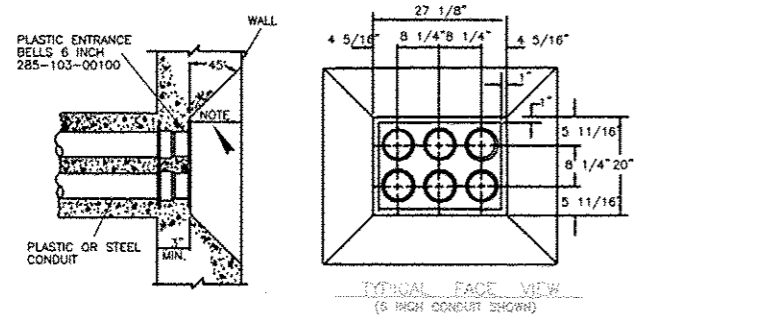

FIG. 1 MANHOLE ENTRANCE WITH PLASTIC TERMINATORS (OLDER STYLE)
CONDUIT ENTRANCES INTO MANHOLES/HANDHOLES SHALL NORMALLY BE MADE WITH PLASTIC ENTRANCE BELLS PER FIGURE 1 OR 2. THE ENTRANCE CONDUIT SHALL BE PLASTIC OR STEEL ENCASED IN CONCRETE AS PER FIGURE 1 AND 2 BELOW, SPECIFIED BY THE ENGINEER ON THE CONSTRUCTION DRAWINGS.
DUCT POCKETS SHALL BE PROVIDED IN WALLS WHERE SPECIFIED ON CONSTRUCTION DRAWINGS. POCKET NOT REQUIRED ON NEWER STYLE MANHOLE DESIGNS (FIGURE 2). TYPICAL POCKET DIMENSIONS ARE INDICATED BELOW ON FIGURE 1.
- REVISION 1: BELL END FITTING SHALL BE USED FOR THE INSTALLATION OF CONDUIT TERMINATING ON END OF ENCASED PLASTIC CONDUIT. (SEE FIG. 1)